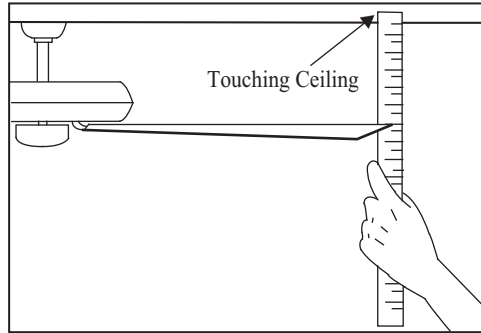

Figure 16
2. Most fan wobble problems are caused when blade levels are unequal. Check this level by selecting a point on the ceiling above the tip of one of the blades. Measure from the center of each blade to the point on the ceiling. Measure this distance as shown in Figure 16. Rotate the fan until the next blade is positioned for measurement. Repeat for each blade. Measurements deviation should be within 1/8". Run the fan for 10 Minutes.